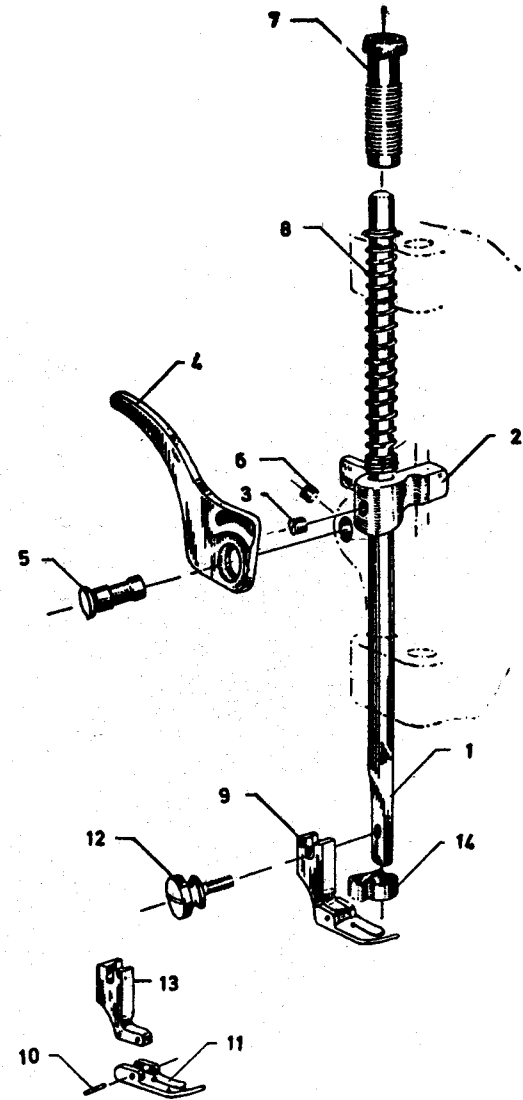

FIG. 10 PRESSURE BAR AND LIFTER ASSEMBLY
**2.10 Pressure Bar and Lifter Assembly — *See Fig. 10.***